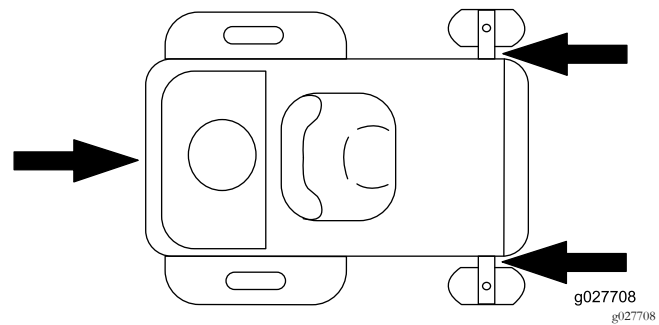

Figure 23
- Securely fasten the machine to the trailer or truck with straps, chains, cable, or ropes. Only use the designated tie-down locations on the mower as shown in Figure 23. Use these locations even when transporting the mower with an attached accessory. Using non-designated locations may cause damage to the mower and/or attachment.